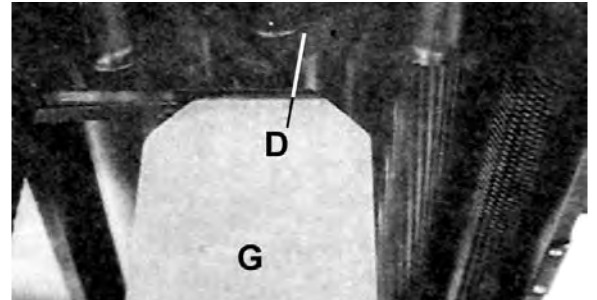

FIGURE 25
3. Place the gauge block (G) on the table directly underneath the cutterhead, as shown in Fig.25. Using a 0.02" Feeler gauge (D) placed on top of the gauge block, raise the work table until the knife just touches the feeler gauge when the knife is at its lower point. Do not move the work table any further until the outfeed roller is adjusted.